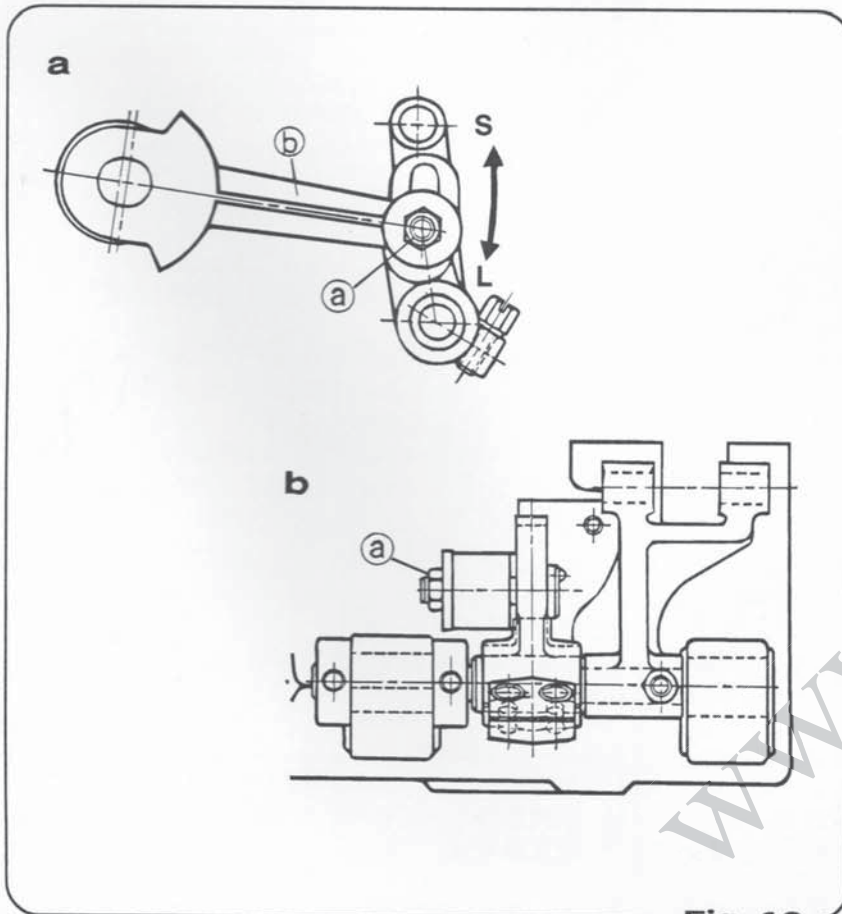

Fig. 10
Loosen the nut ③ of the feed regulator and move the feed connecting rod ④ in the direction of S, as shown in (Fig.10), to decrease the stitch width, and move the rod in the direction of L to increase the width. When moving the feed connecting rod, do so after confirming that the feed connecting rod can move freely along the slot in the feed rocker (Rotate the pulley in the forward direction until the feed dog is in the forefront position).
针距可调节从一针距最小 7mm 调至最大 11.5mm。从工场出货时，这针距调为 10mm。针距调节要领，请参看(图 10)